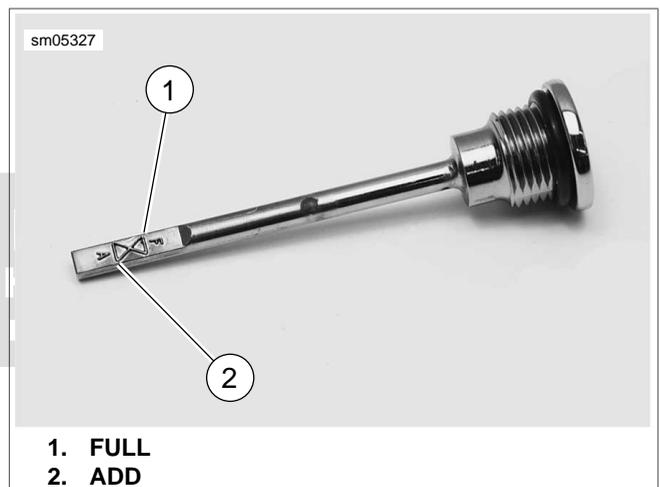

Figure 1-14. Transmission Filler Plug/Dipstick Lubricant Level
3. See Figure 1-14. Wipe off filler plug/dipstick. Place in filler hole and remove. (Dipstick should rest on lip of filler. Do not screw in.) Lubricant level should be between the full and low marks on the plug/dipstick when removed.